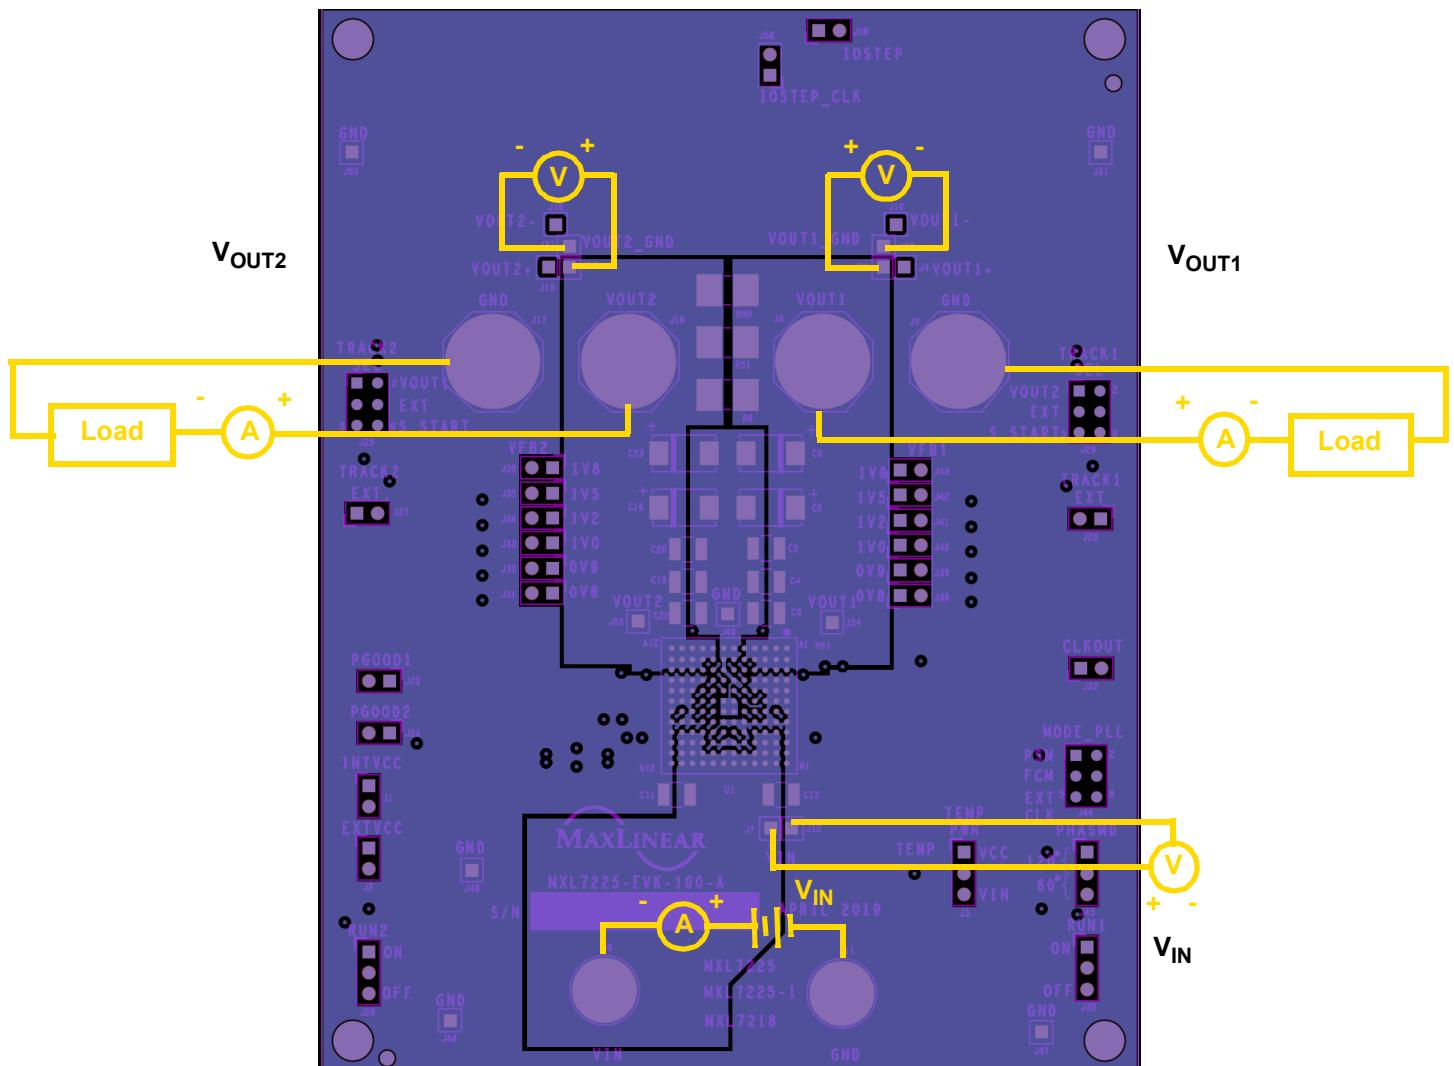

Figure 1: Monitoring V_{IN} and V_{OUT}
2. Connect a turned-off power supply that is within a V_{IN} specification of 4.5V to 16V, (12V typical) to VIN and GND with short, thick leads. Use test pins VIN+ and VIN- to monitor VIN and GND respectively. See locations in Figure 1.
3. For the channel 1 output, connect an electronic load initially set to 0A, that will be no more than the above maximum I_{OUT} (13A), to VOUT1 and GND with short / thick leads. Use test pins VOUT1 (J52) and VOUT1_GND (J60) to monitor VOUT1 and GND respectively. See locations in Figure 1.
4. For the channel 2 output, connect an electronic load initially set to 0A, that will be no more than the above maximum I_{OUT} (13A), to VOUT2 and GND with short, thick leads. Use test pins VOUT2 (J53) and VOUT2_GND (J61) to monitor VOUT2 and GND respectively. See locations in Figure 1.